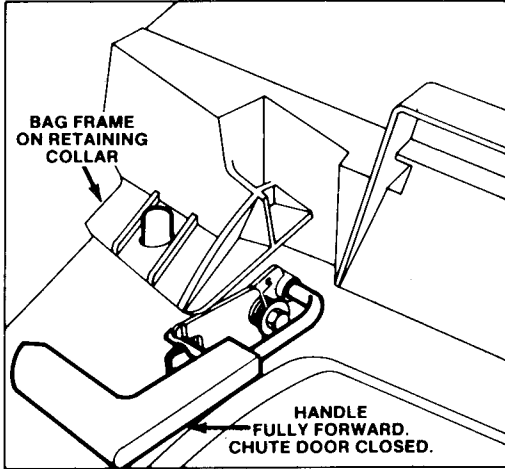

Figure 5
MULCH — In summer, when grass grows slower and is drier, mulch by closing chute door (Fig. 5). For convenience and protection, keep grass bag on mower.
2. Assure chute door handle is fully forward and pin is engaged in catch (Fig. 5).
5. **EMPTYING BAG** — Release control bar and wait for blade to stop. Move chute door handle forward to engage the locking pin with catch (Fig. 5). Grasp handle at front and rear of bag and lift bag off mower. Gradually tip bag forward to empty clippings.